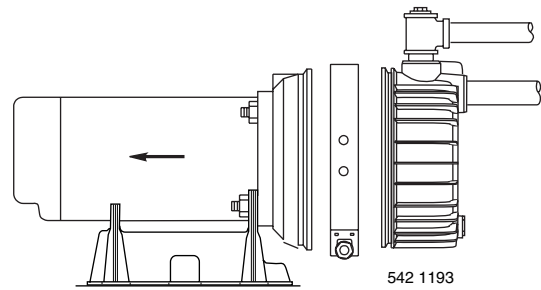

Figure 18 – Slide Motor Back
Pump and piping need not be disconnected to repair or replace motor or seal (see Figure 18). If motor is replaced, replace the shaft seal. Keep one on hand for future use.
2. Remove clamp (see Figure 18).
3. Remove pump base mounting bolts. Motor assembly and back half of pump can now be pulled away from pump front half (Figure 18). CAREFULLY remove O-ring.